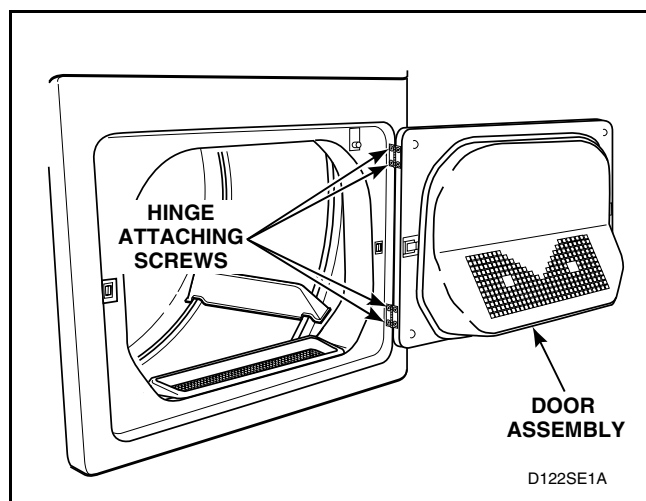

Figure 22
- Support door and remove four screws holding hinges to front panel. Refer to *Figure 22*. Remove complete door assembly.